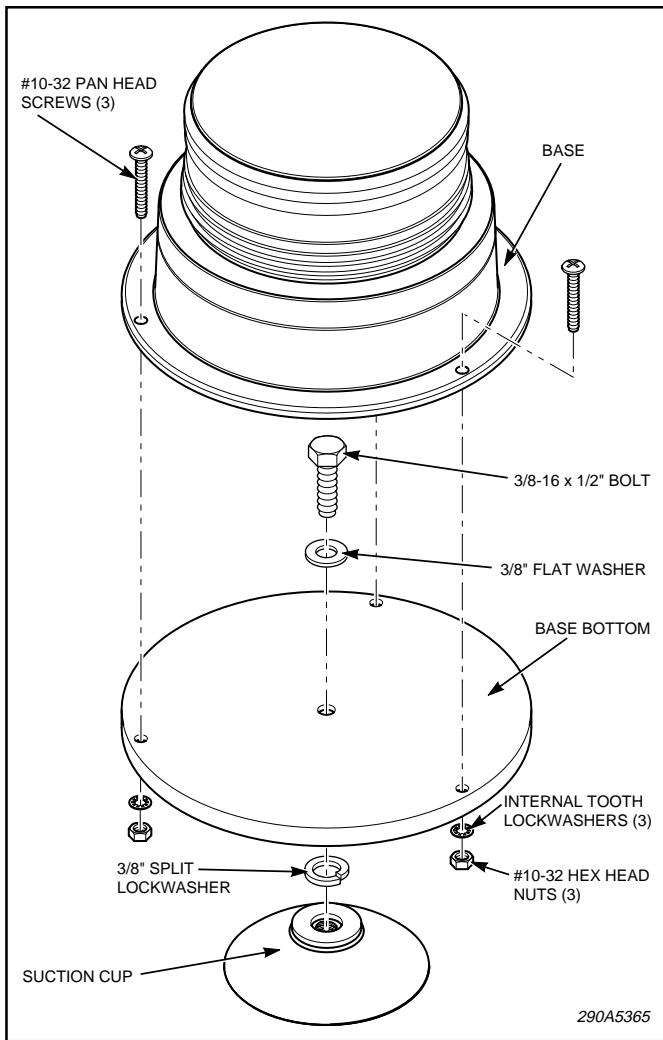

Figure 1.
B. See figure 1. Drill a .380" hole at the center of the base bottom.
C. Secure the suction cup to the base bottom using the 3/8" bolt, lockwasher, flat washer, and nut as shown in figure 1.
D. Secure the assembled base bottom and suction cup to the base of the light assembly using the included 10-32 x 3/4" screws and the #10 nuts and lock washers included with the light assembly (see figure 1).